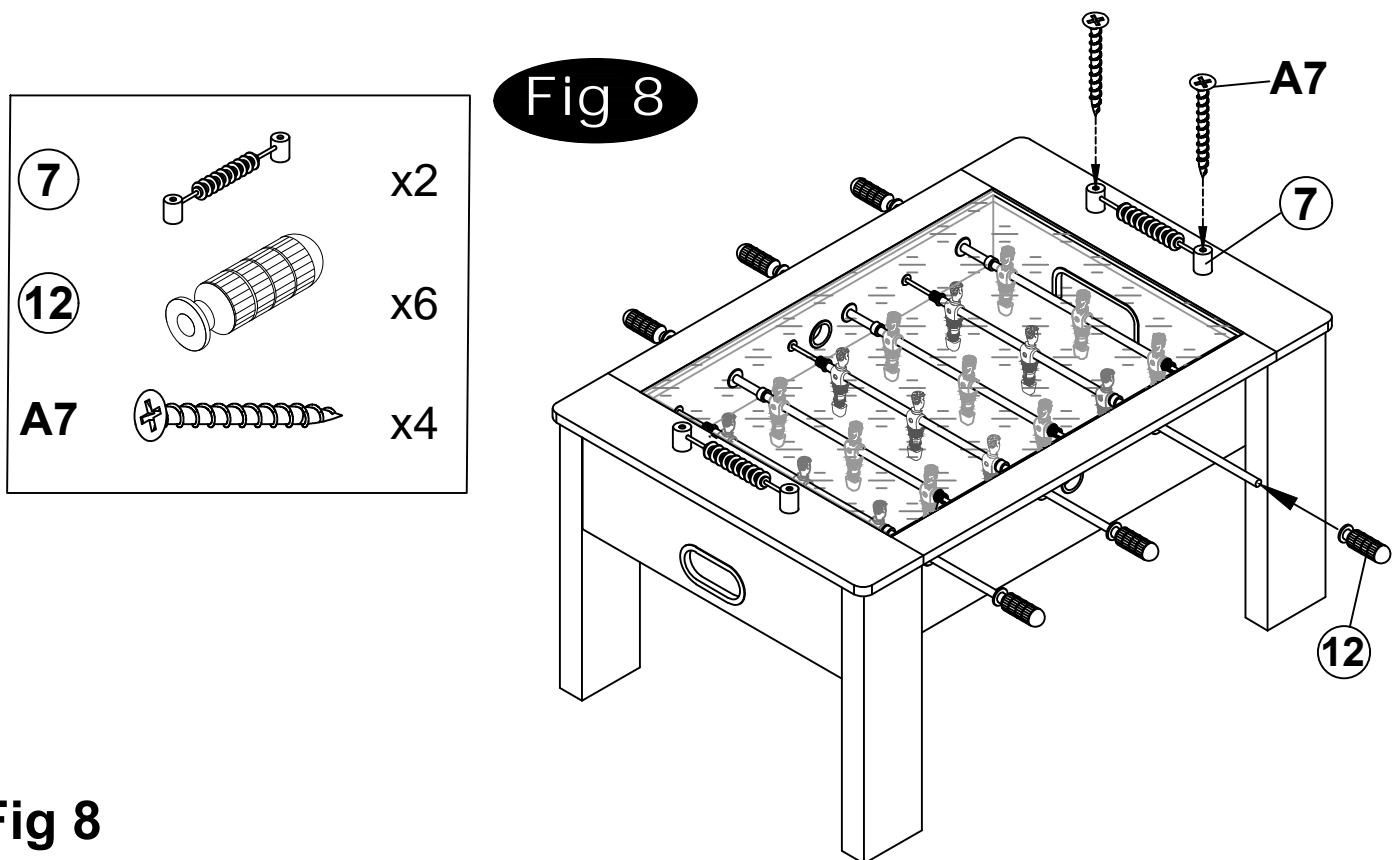

Fig 8
10. Attach two set of Scorers(#7) to the End panels(#2) using screws(A7). See FIG.8.
11. Push a Handle (#12) onto each of the Players Rod(#9 & #10) as shown FIG. 8.